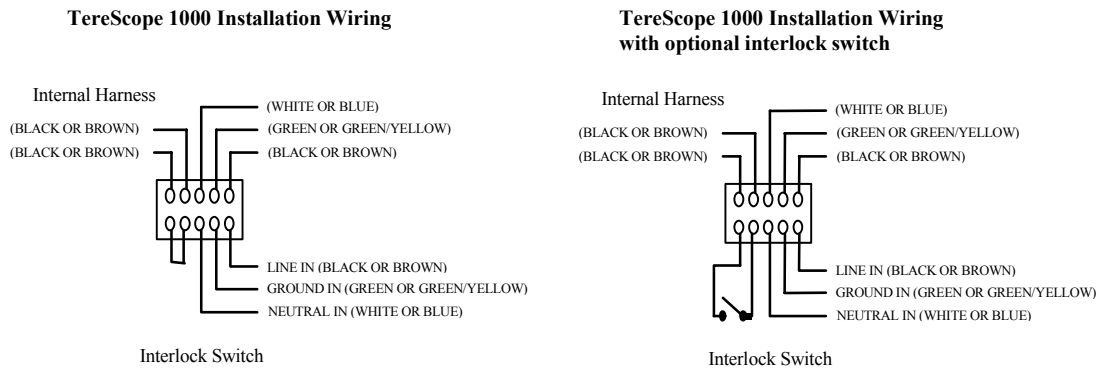

Figure 4. Wiring configuration with and without optional interlock switch.
1. Remove the standard AC cable (if present) from the TereScope electronics box and run weatherproof flexible ¾” NPT conduit from a junction box to the AC knockout in the electronics box. The AC wiring should be connected using wire no smaller than 18 AWG terminated with either #6 ring terminals or #6 flanged spade terminals. The wires should be connected to the terminal block in the electronics box as shown in Figure 4.
Terminals are provided for the option of installing an interlock switch (see right side of Figure 4). An interlock switch will turn off the laser power if the switch opens. For example, if the switch were attached to a lab door and someone opens the door, the lasers will turn off. The lasers will only be on if the interlock switch is closed or shorted. If this option is desired, the user-supplied interlock switch should be connected using wire no smaller than 18 AWG terminated with #6 terminal lugs.